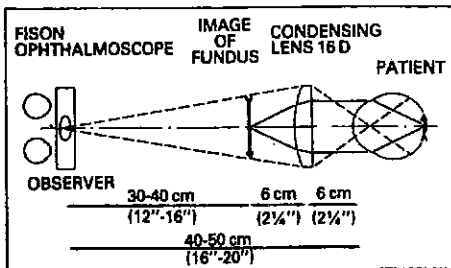

Fig. 2
4. Keep the head quite steady and gradually move the condensing lens away from the patient's eye. During this process do not look at the lens but at the red reflex from the fundus which is focussed at a point in space between the condensing lens and the observer. Just before reaching the optimum position for the condensing lens, conditions will be as in fig 2: